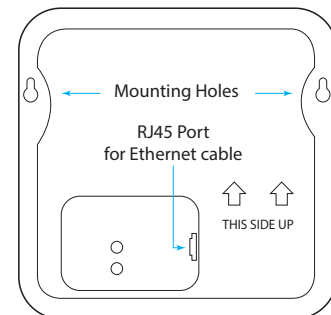
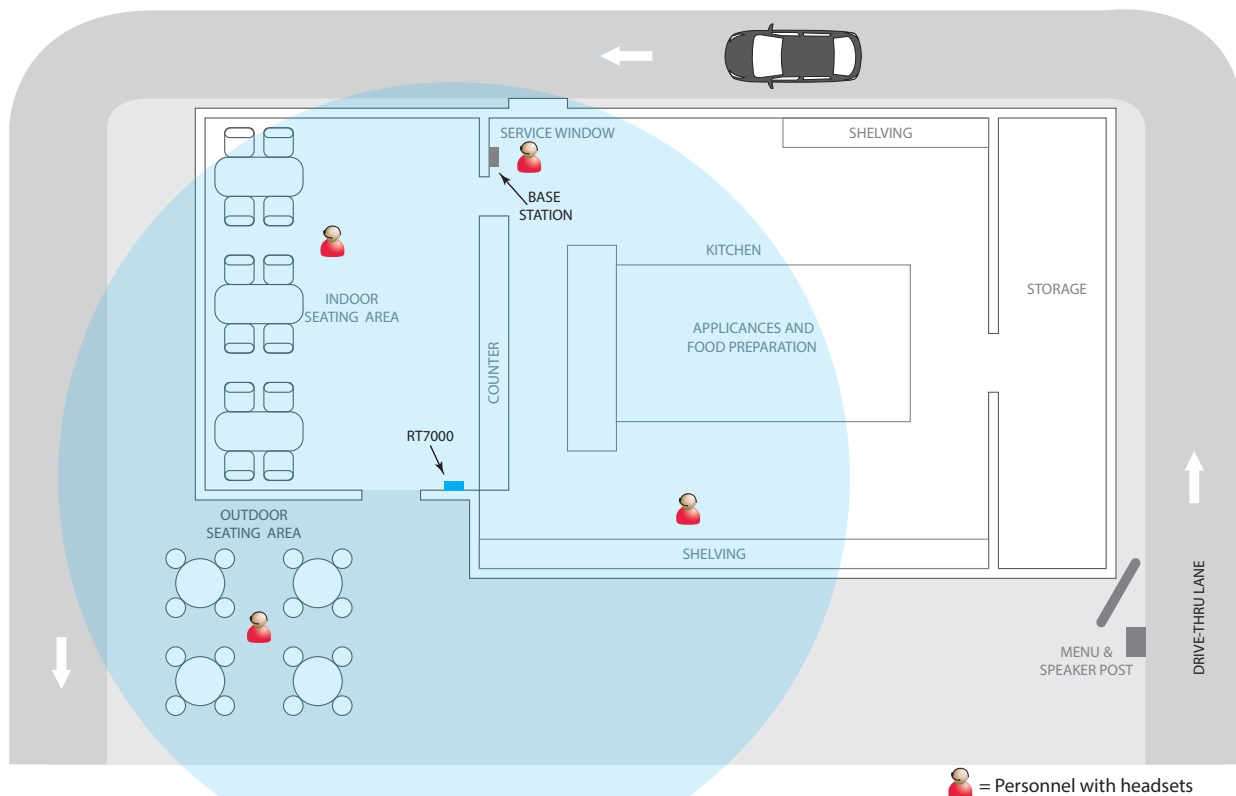

Fig. 2.4
Fig. 2.10
4. Mount the power supply. Mark the mounting location on the wall through the mounting holes on each side. Mount the power supply using the hardware provided. Terminate the power supply to the Base Station (see "Wiring Diagram's" Fig. 2.10, 2.11 and wiring connections on page 5).
5. **Critical Step:** Loosely mount and connect the RT7000 (Fig. 2.4 & 2.5) in a central location for optimal coverage (until range tested in steps 9 & 10 with the Installation Wizard). For example, notice Fig. 2.10 and 2.11. They show two different store layouts with specific targeted areas where the headsets are primarily used. In these examples, the location selected for the RT7000 (represented by the small blue rectangle) offered the best coverage indicated by the blue circled areas. Each store required the RT7000 to be mounted in a different but central location to provide the best all-around coverage unique to the store's need. Store layout and obstructions also affected placement and range. (see "Component Notes" on page 14 for more details on the RT7000 placement).